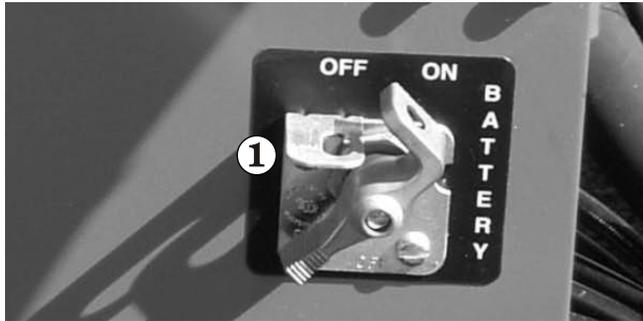

Figure 8.6
1. Set the **Battery** switch **1** to on (see Figure 8.6).